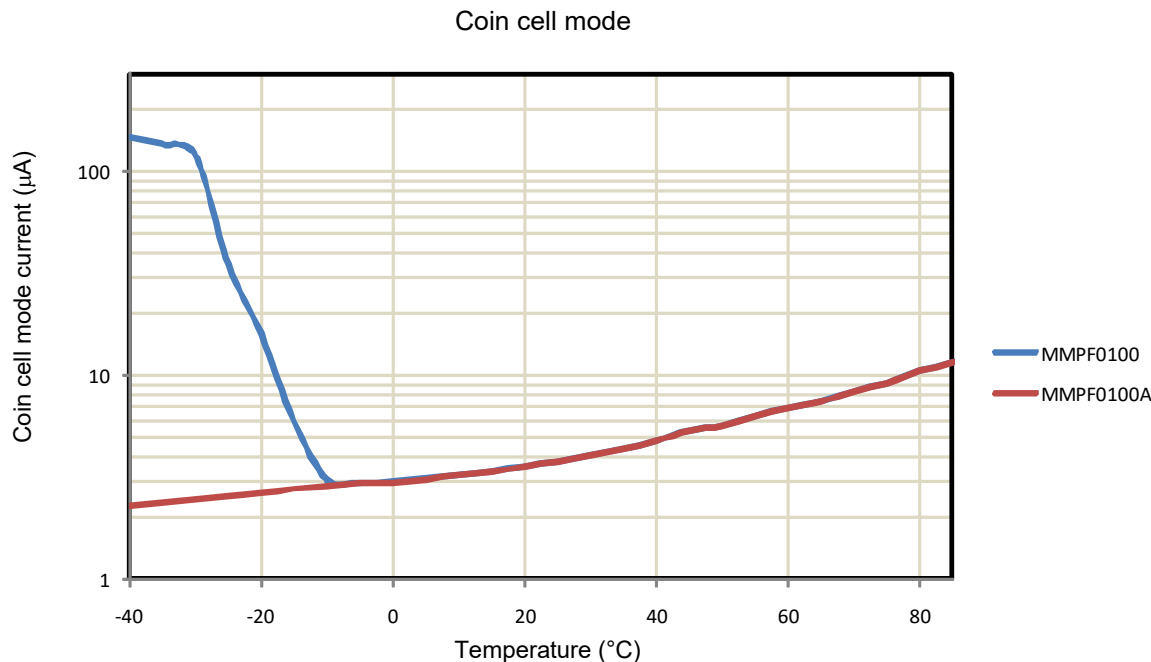

Figure 4. Current overtemperature waveforms
- 16. Refer to Figure 4 for coin cell mode characteristics over temperature.